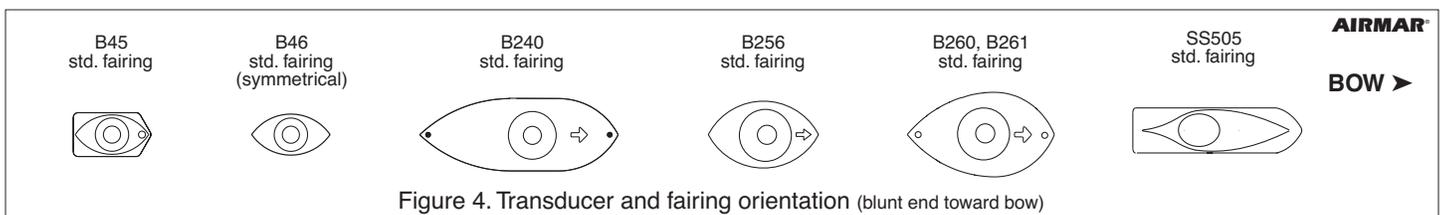

Figure 4. Transducer and fairing orientation (blunt end toward bow)
2. With the fairing in place (if used) and the arrow pointing forward toward the bow, push the stem of the transducer through the mounting hole (see Figure 4). (A symmetrical fairing can be oriented either way.) **Take care to align the assembly parallel to the centerline of the boat.** Squeeze out any excess sealant.